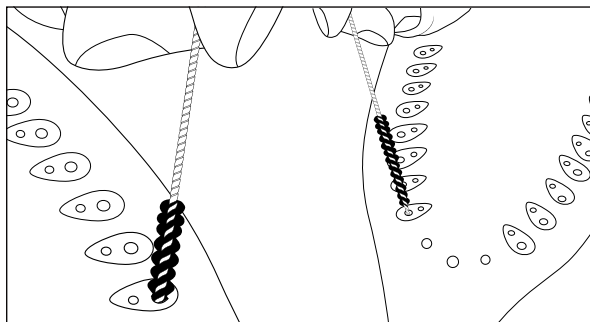

Fig. 13
- 2) Use the supplied cleaning brush **11** to remove the limescale deposits in the openings of the soleplate **8** (see fig. 13).